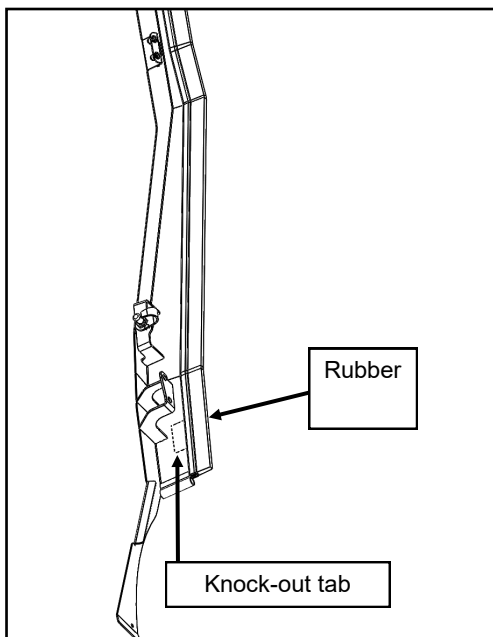

Fig. 6.1 (C-pillar panel, for right side only)
- 6.1 If installing on an 800 vehicle, skip this step. If installing on a 1000 vehicle, remove the knock-out tab from just the right side C-Pillar to clear air intake that is welded to the ROPS. See figure 6.1 below.